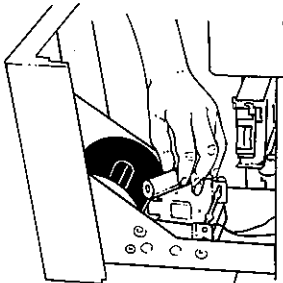

Figure 3.25 Removing the empty paper core.
5. Remove the empty paper core and discard the core (Fig. 3.25).